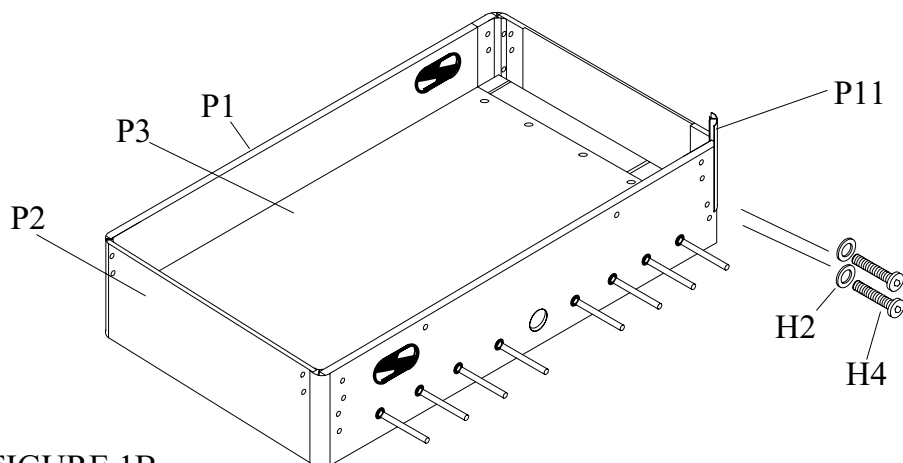
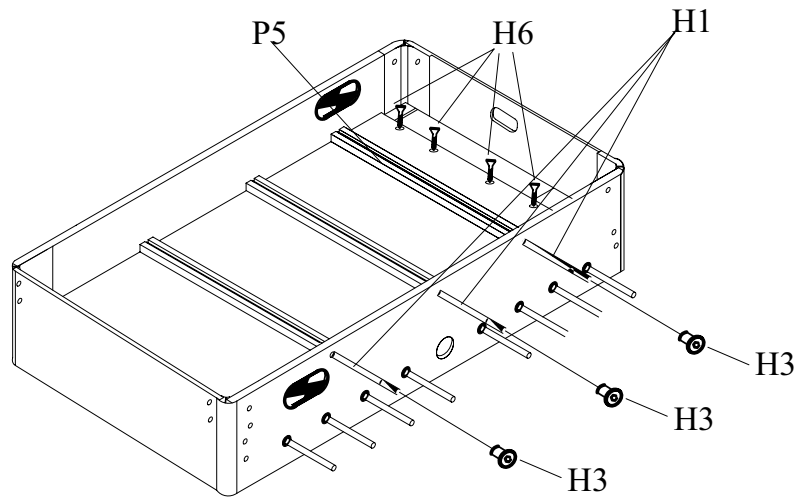

FIGURE 1B
FIGURE2
- 3** ATTACH THE TWO END PANELS **P2** TO THE SIDE PANELS **P1** AS SHOWN IN **FIGURE 2**. **REMEMBER THE GROOVE MUST FACE INWARD TOWARD THE PLAY FIELD**. INSERT THE BENDS (P11) INTO THE SIDE PANELS (P1) & END PANELS (P2) SEE **FIGURE 1B**.
- 4** ATTACH THE END PANELS WITH BOLTS (**H4**) AND WASHERS (**H2**) INTO THE PRE-INSTALLED DOWEL CONNECTORS. TIGHTEN ALL HARDWARE AT THIS TIME. INSERT PLAYING FIELD (P3) INTO THE GROOVE ON THE SIDE PANELS (P1) WITH GRAPHICS FACING DOWN. SEE **FIGURE 1B**.
DO NOT TIGHTEN AT THIS TIME! SEE **FIGURE 2**.
- 6** ATTACH PLAY FIELD WITH EIGHT SCREWS (**H6**) IN THE ENDS AS SHOWN IN **FIGURE 2**.